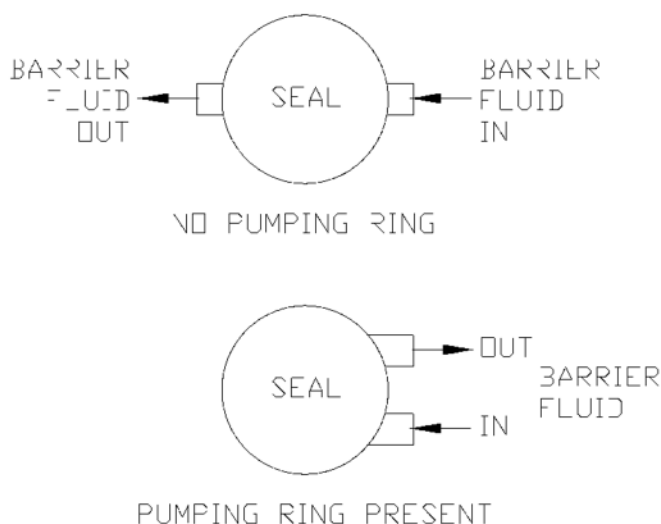

Figure 10. Identifying presence of pumping ring for barrier fluid
14. The **GTN/HTN** seal may be equipped with a pumping device to circulate the barrier fluid (refer Figure 10). Whenever such a pumping device (usually a pumping ring) is present: